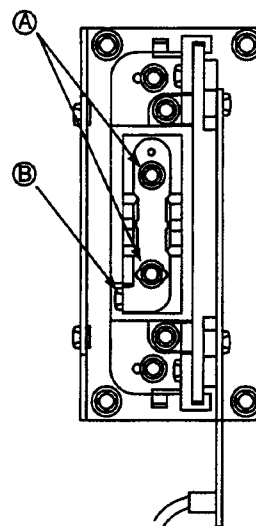

Fig. 6-7
1. Loosen 2 screws A shown in Fig. 6-7.
2. Execute rough adjustment of the reading start position by rotating screw B shown in Fig. 6-7 (by sliding the lens forward and backward) so that the waveform shown in Fig. 6-8 is obtained on the oscilloscope.